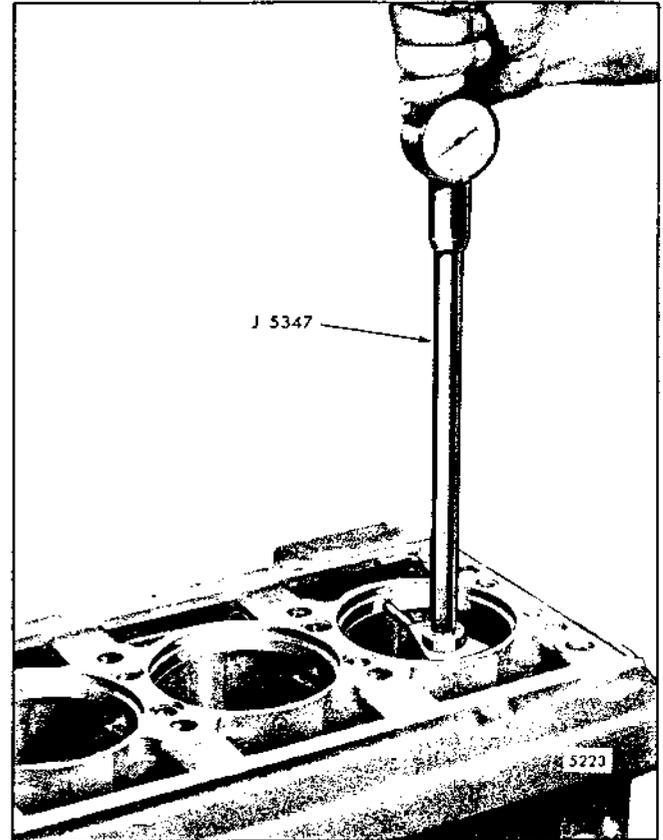
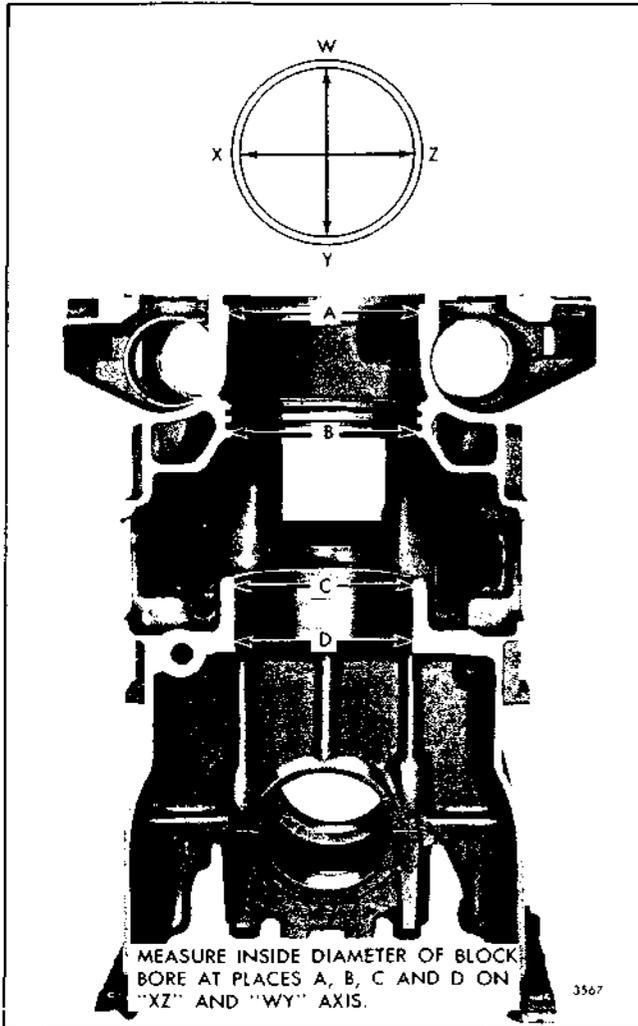

Fig. 12 - Checking Cylinder Block Bore with Tool J 5347
Fig. 13 - Block Bore Measurement Diagram
b. Measure the entire bore of each cylinder with cylinder bore gage J 5347 (Fig. 12) which has a dial indicator calibrated in .0001" increments. Use dial bore gage setting tool J 23059 to preset the cylinder bore gage to zero. Measure each block bore at the positions indicated in Fig. 13, on axis 90° apart. If the diameter does not exceed 4.5235" at position "A", 4.4900" at position "B" (and a sealing problem hasn't occurred), or 4.3595" at position "C" and "D", then the block may be reused. Also, the taper and out of round must not exceed .0015".